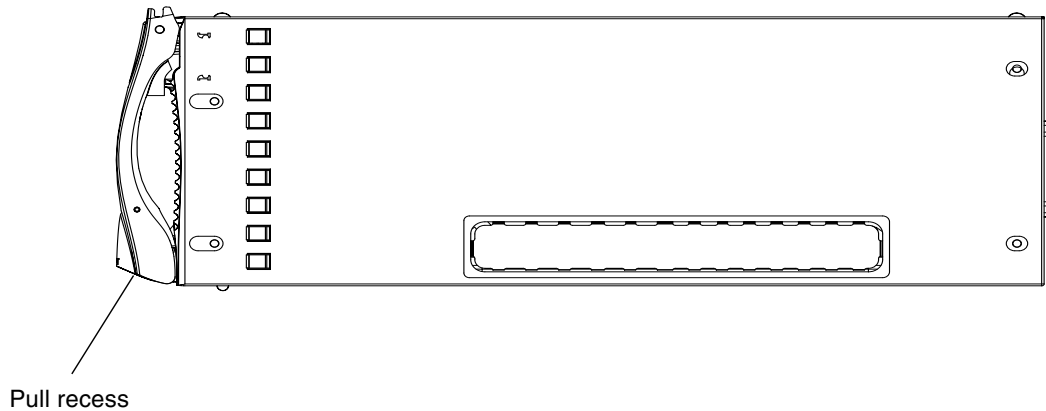

FIGURE 4-5 Blade Locking Mechanism
1. If required, open the blade lever by inserting a finger in the pull recess located in lower portion of the blade lever and pull the lever in a forward and upward motion, causing the lever to unlatch (FIGURE 4-5).